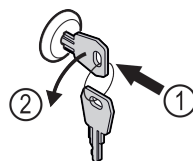

Fig. 208
- ▶ Insert the key. Fig. 208 (1)
- ▶ Turn the key anticlockwise by 90°. Fig. 208 (2)